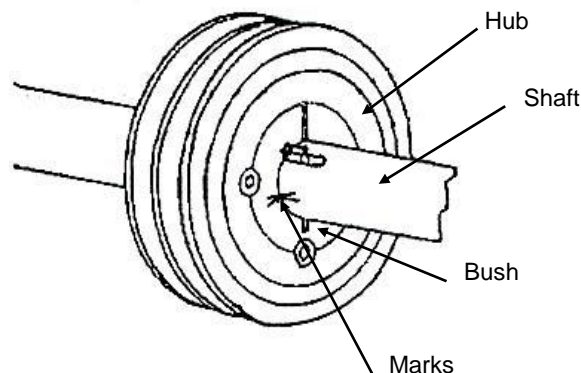

FIG 17.
- A. Mark the shaft and taper lock bush with a scribe (Fig 17), so that it can be replaced in the same position on the shaft.